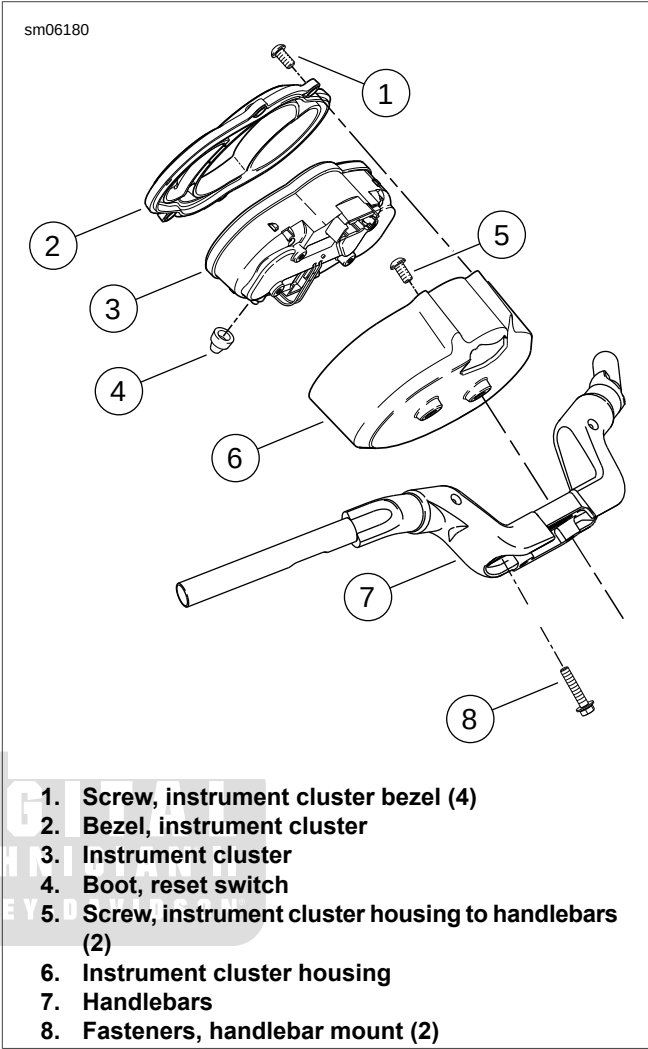
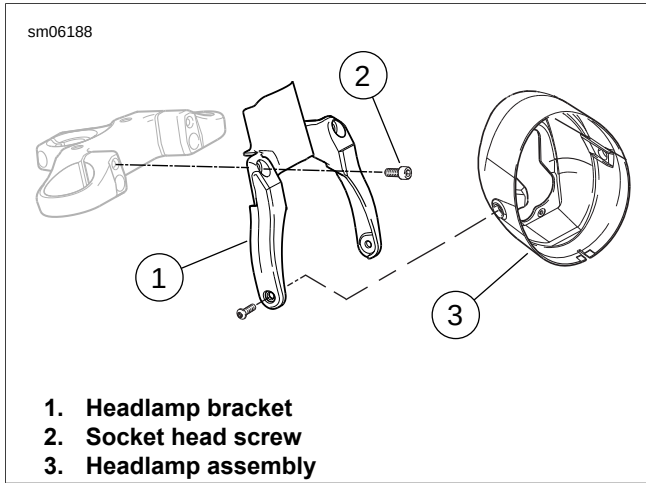

Figure 2-48. Handlebar Assembly (VRSCF)
Figure 2-49. Headlamp: VRSCF
9. See Figure 2-48. Remove wiring harness connector to instrument cluster and remove instrument cluster (3). See 7.21 INSTRUMENT CLUSTER: VRSCF.
10. Remove the two screws (5) securing the instrument cluster housing (6) to the handlebars (7) and remove housing.
11. Remove fasteners (8) holding handlebars (7) to upper fork bracket. Remove handlebars.
1. See Figure 2-48. Mount handlebars (7) on upper fork bracket using handlebar fasteners (8). Tighten to 41-47 Nm (31-35 ft-lbs).
2. Mount the instrument cluster housing (6) to the handlebars (7) by installing the two screws (5). Tighten to 4-7 Nm (35.4-62.0 in-lbs).
3. Install instrument cluster (3) and connect wiring harness to instrument cluster. See 7.21 INSTRUMENT CLUSTER: VRSCF.
4. See Figure 2-49. Install headlamp with headlamp bracket fasteners (2). Tighten to 11-18 Nm (108-156 **in-lbs**).